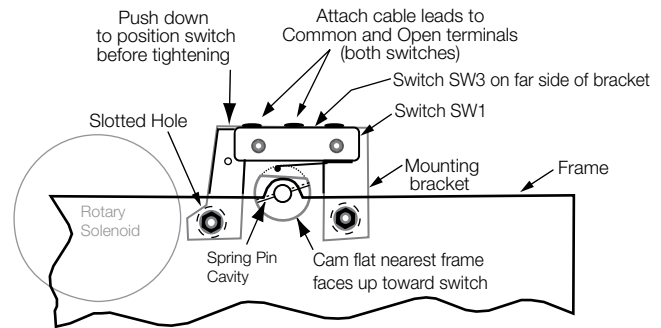

Figure 21. Orientating cam for switches SW1 and SW3.
3. Remove and discard two large retaining E rings from main shaft (Figure 21).
5. Use punch to remove roll pin holding old SW1 cam. Discard roll pin. (Figure 21).